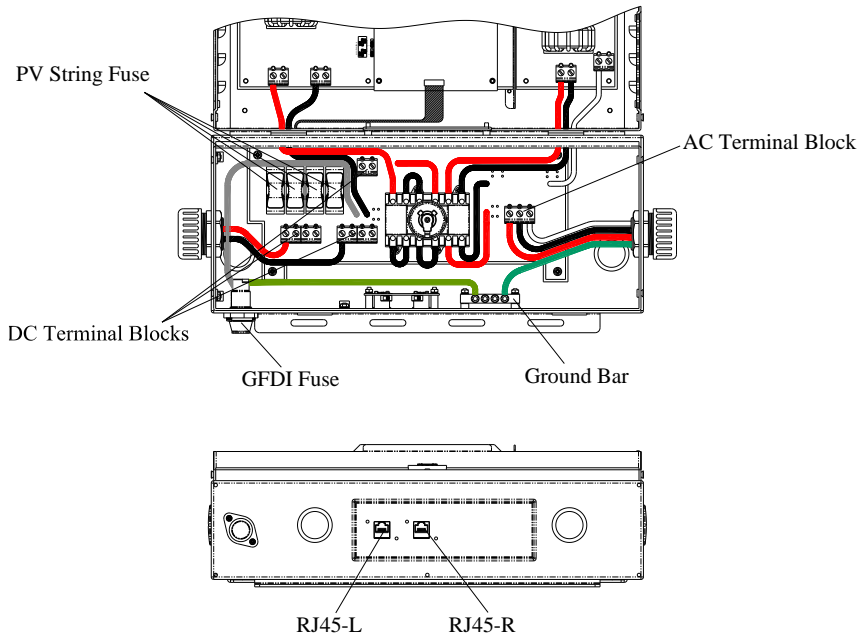

Fig 2.3.5 Wiring box front view
The following three sections describe the wiring for the AC, DC, and communication ports. The wiring shall be done in the wiring box for the PVMate 2900U ~ PVMate 5300U. There is a pair of DC terminal blocks, two (2) RJ-45 connectors, and one (1) AC terminal block in the wiring box as shown in the figure 2.3.5. The DC terminal blocks are used to connect up to 4 PV strings in parallel in the wiring box. The RJ-45 connectors are used for external communication to a remote computer or terminal. The AC terminal block is used to connect to the utility grid through a circuit breaker and distribution panel according to national and local requirements.